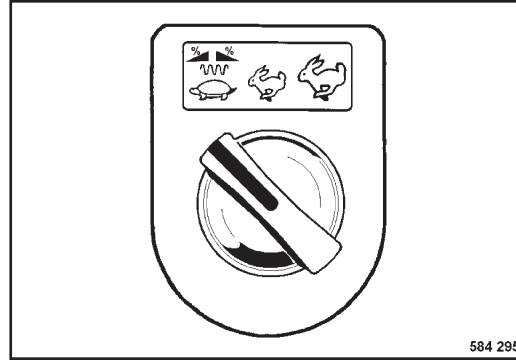

Fig. 44
- Select the desired travel speed range (Fig. 44).